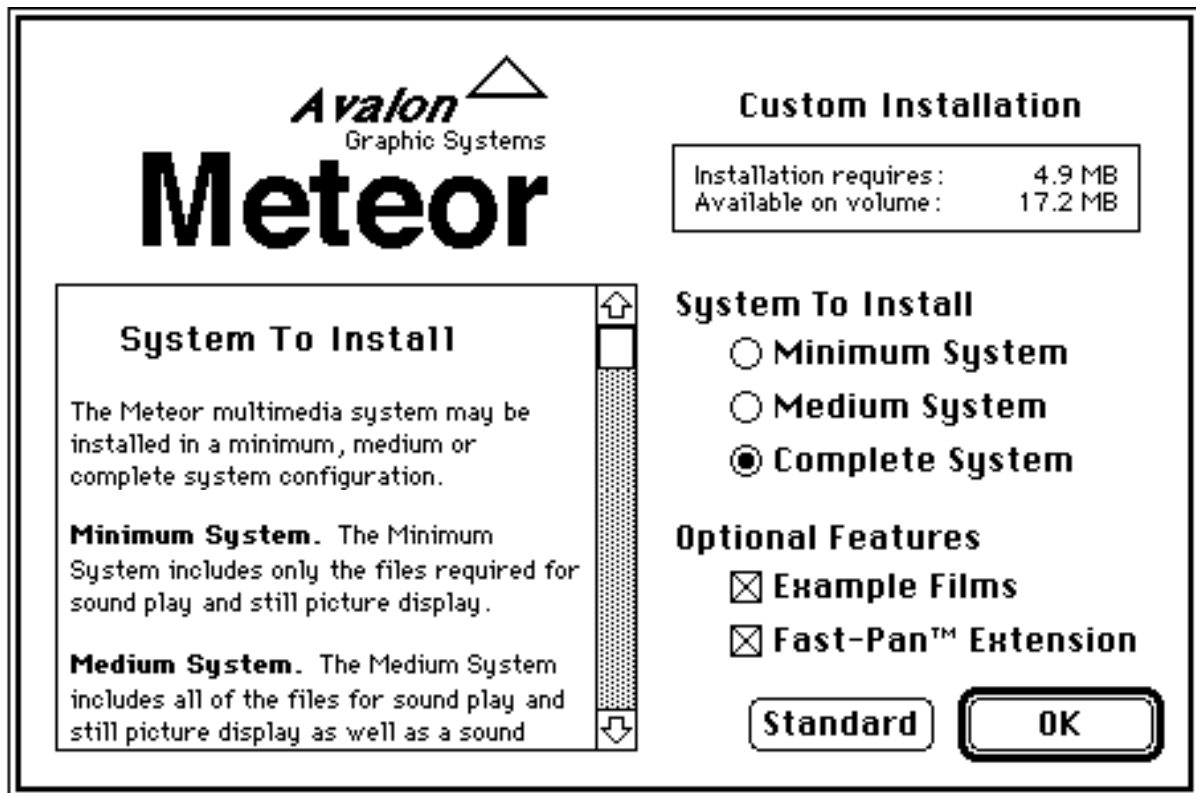

Figure 4: AltMain Dialog Configured as a “Customize” Dialog
been renamed “Customize...”. When the Customize button is clicked in this example, an AltMain Dialog like the one in Figure 4 could be displayed.
**Group Checkboxes and Radio Buttons.** The Main and AltMain Dialogs contain 16 pre-defined checkboxes and 10 radio buttons which may be used to define “installation groups”. Installation groups are subsets of the files in the distribution disk set. By including some of these checkboxes and radio buttons in your dialogs and defining special folders in the source archive, you can provide a way for users to tailor the installation to their own needs. The AltMain Dialog in Figure 4 uses three of the group radio buttons and two of the group checkboxes to provide installation options. Additional information on using installation groups is provided in the “Group Folders” section of the chapter titled “Creating The Source Archive”.